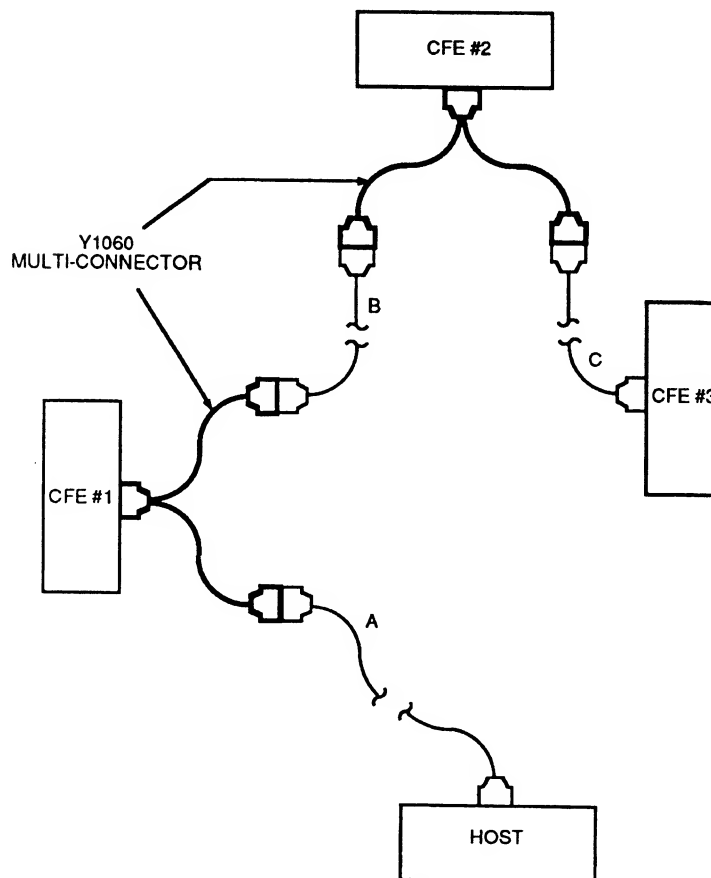

Figure 3-6. RS-422 Multipoint Cabling Configuration
1. Attach the Y1060 Serial Link Multi-Connectors. Refer to Figure 3-6 for a typical RS-422 multipoint configuration.
2. Determine requirements for cables "A", "B", and "C" in Figure 3-6.
5. Attach cables "A", "B", and "C" (Figure 3-6).